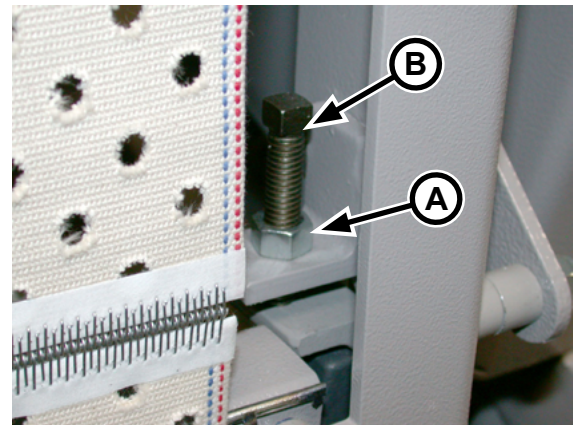

Figure 7-14: Loosen the locknut and adjust the roll equally on each side.
4. Locate the feed ribbons drive roll tension adjustment bolts (Figure 7-14, A). There is one on each side of the machine.
5. While holding each adjustment bolt in place, loosen its locknut (Figure 7-14, B).
5. Locate the feed ribbons drive roll tension adjustment bolts (Figure 7-14, A). There is one on each side of the machine.
6. While holding each adjustment bolt in place, loosen its locknut (Figure 7-14, B).